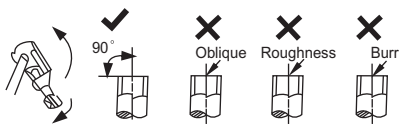

Fig. 28 — Cut the pipe
- Cut the pipe, with a pipe cutter, at 90 degrees (see Fig. 28).